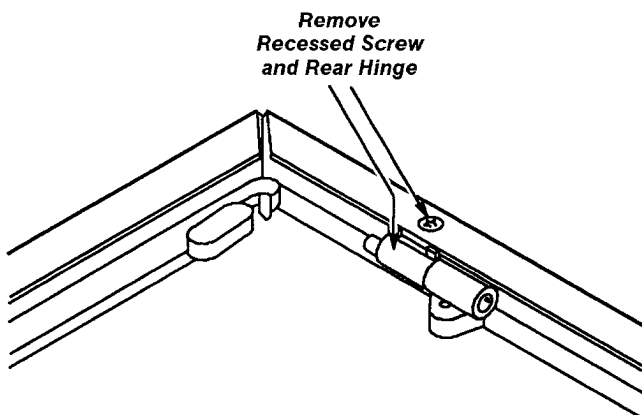

Figure 6-6. Recessed screw and rear hinge removal.
4. Remove the recessed screw and chassis-mounted rear hinge nearest to the Board Latch from the instrument (see Figure 6-6 for removal of the chassis recessed screw and hinge).